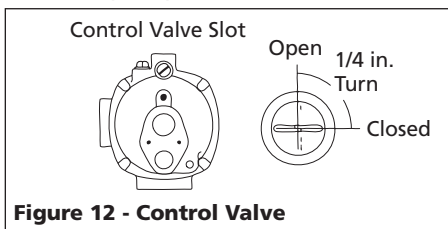

Figure 12 - Control Valve
NOTE: When the deep well pump is used with the bolt-on shallow well jet, be sure the control valve slot (Figure 12) is in the vertical (open) position at all times.
4. Close the control valve (Figure 12) and open a nearby faucet.